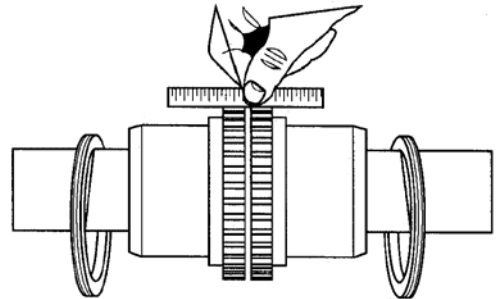

FIGURE 6D – USING STRAIGHT EDGE
9. Align so that a straight edge rests within the limits shown in Figure 6D on both hubs as shown below and also at 90° intervals without rotating the coupling. Check with feelers. The clearance must not exceed the PARALLEL OFFSET installation limits specified in Figure 6H.